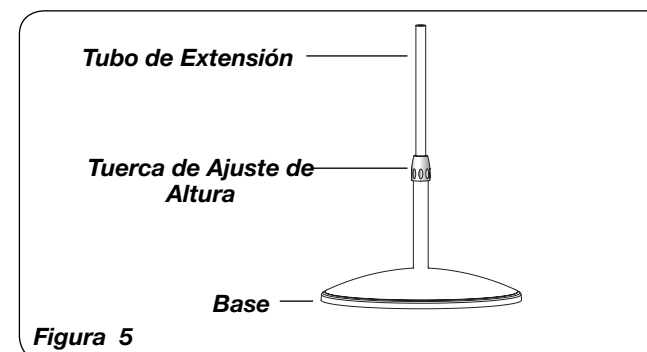

Figure 5
- With a twisting motion, insert the end of the large diameter pipe into hole in **Base**. (*Figure 5*) Turning pipe while pushing will assure pipe is fully seated in **Base**.